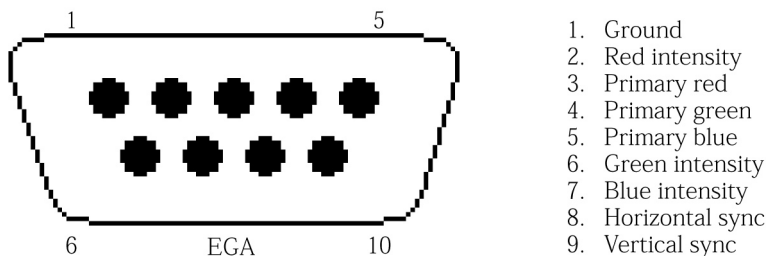

FIGURE 43-5 Pinout of an EGA video connector
The EGA connector pinout is illustrated in Figure 43-5. TTL signals are used to provide Primary Red (3), Primary Green (4), and Primary Blue (5) color signals. By adding a set of secondary color signals (or color *intensity* signals) such as Red Intensity (2), Green Intensity (6), and Blue Intensity (7), the total of six color control signals allow the EGA to produce up to 64 possible colors. Although 64 colors are possible, only 16 of those colors are available in the palette at any one time. Pin 8 carries the horizontal sync signal, pin 9 carries the vertical sync signal, and pin 1 remains ground.